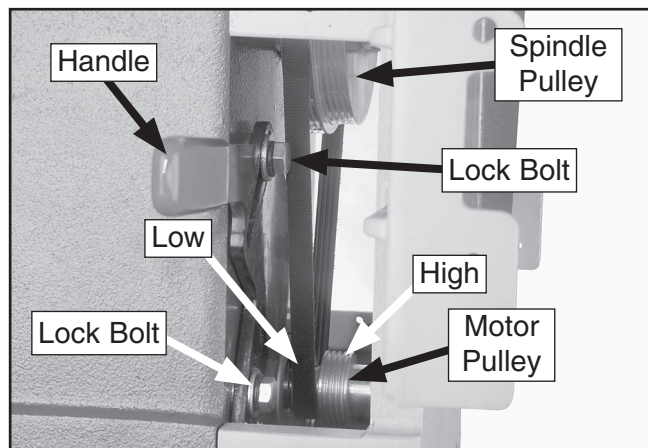

Figure 29. Belt tension controls.
3. Loosen the adjustment bolt (Figure 29).